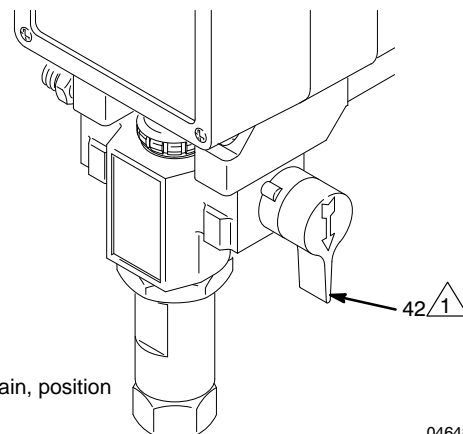

Fig. 7
1. **Open the pressure drain valve (42).** See Fig. 7.